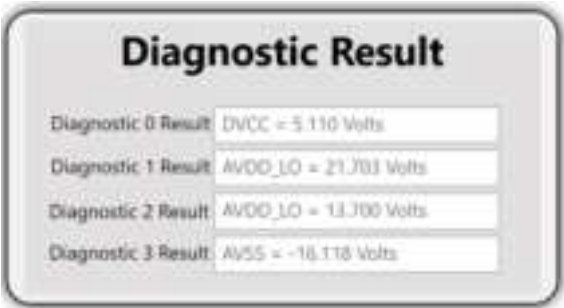

Figure 17. Diagnostics Measurements
- 3. A user can view the results at **Diagnostic Result** view, as shown in Figure 17. Green indicator lights up at **Diagnostics Results** tab, which indicates active diagnostics measurement. Alternatively, to plot the results in the **Analysis** tab, click **Proceed to Analysis** button at the bottom right corner. For more details on Analysis tab, see the Analysis Tab section.